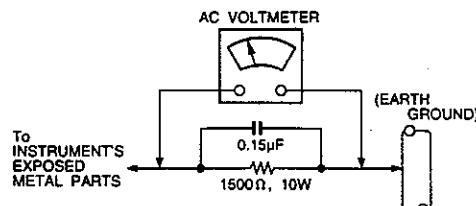

Fig.1
- 5-2 Connect a 1500 ohm, 10 watt resistor, paralleled by a $0.15\mu\text{F}$ capacitor between each exposed metallic part and a good earth ground (as shown in Fig.1).